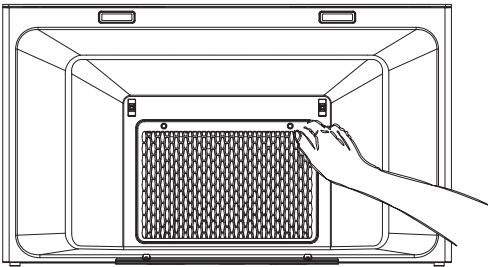
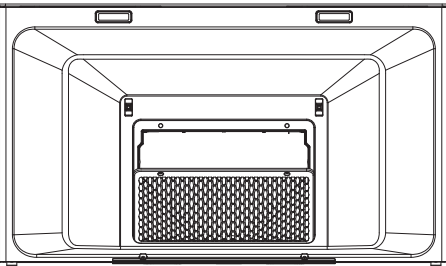

Fig.3
Fig.4
2. Remove the screw and oil filter (see Fig. 3 and Fig. 4);